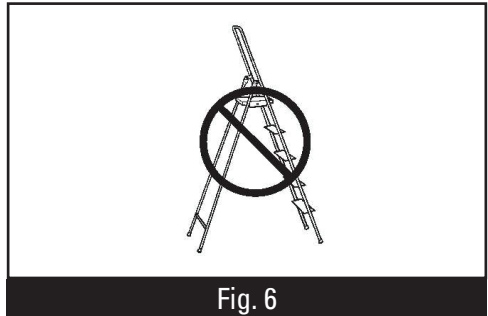

Fig. 6
- Never work from a ladder, stool or any other raised position that is not fully secured. (see Fig. 6)